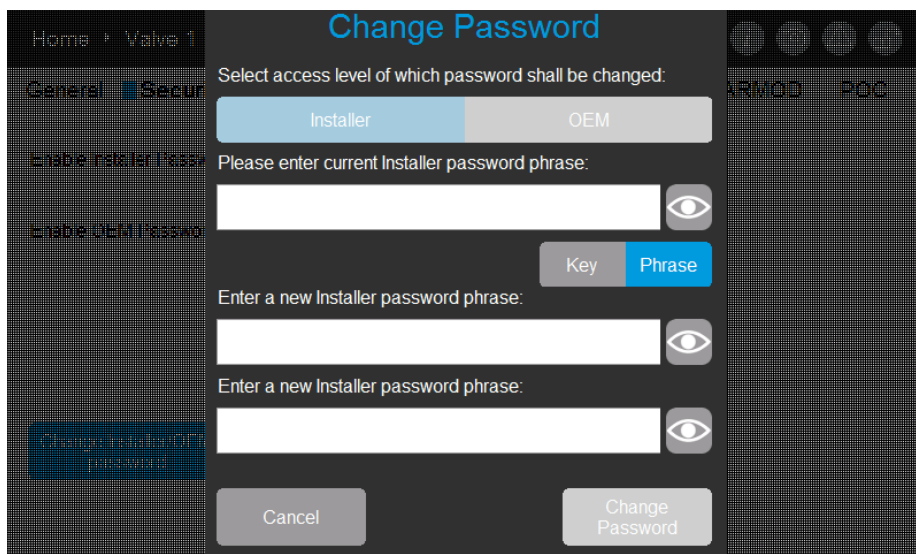

Fig. 79: Change Installer as Installer password dialog box.
3. Type in the current Installer Password (if it exists). Refer to Fig. 79. When the Installer password is not configured, the default Installer password is automatically filled in ('SV2InstallerKey2017').